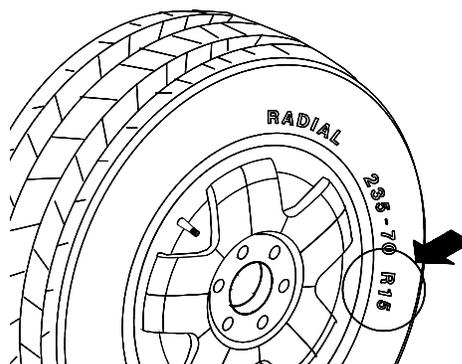

Figure 20
**Manual** Parameter Entry - Read the rim diameter marked on the sidewall of the tire (Figure 20). Enter the stated rim diameter by pressing and holding the diameter button and rotating the wheel assembly until the desired value is displayed.